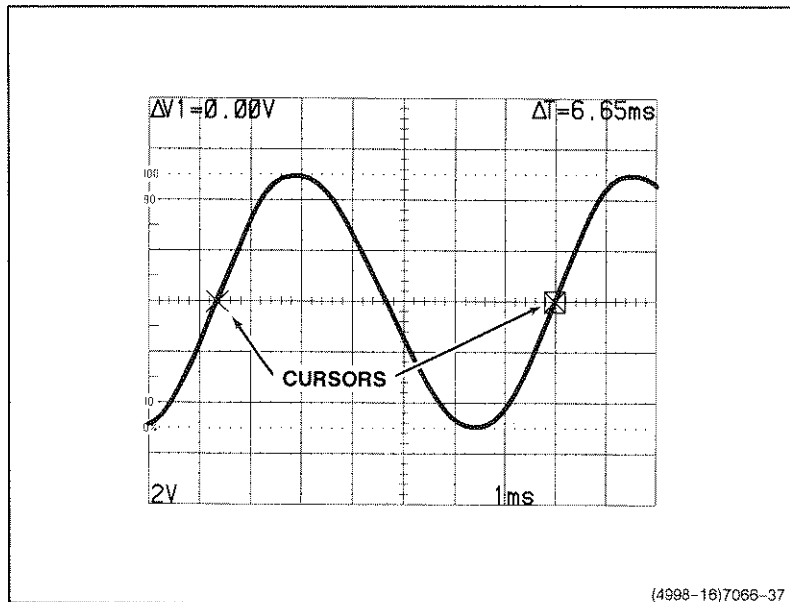

Figure 6-16. Time duration, cursor method.
4. Set the A SEC/DIV switch to display one complete period of the waveform to be measured (see Figure 6-16).